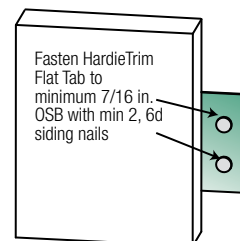

**Figure 21**
**Step 1:** Attach HardieTrim Flat Tabs to the back side of the trim using four, 18 ga. 1/2 in. L x 1/4 in. W narrow crown corrosion resistant staples, equally spaced in one row, positioned no closer than 1/2 in. from trim edges using a pneumatic staple gun. (figures 21, 22)